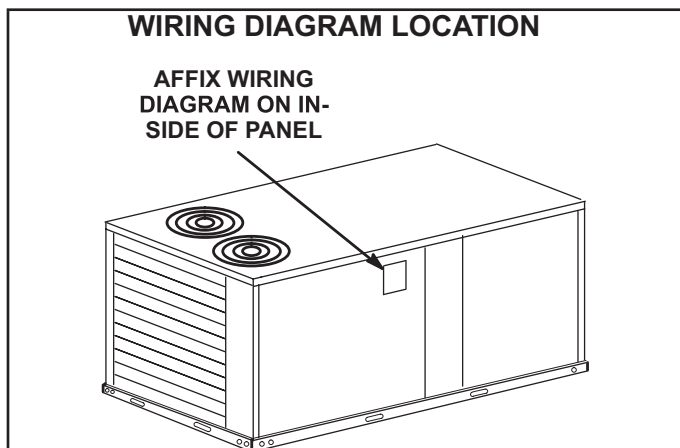

FIGURE 6
- 5 - Select wiring diagram with appropriate voltage and affix to unit in location shown in FIGURE 6.